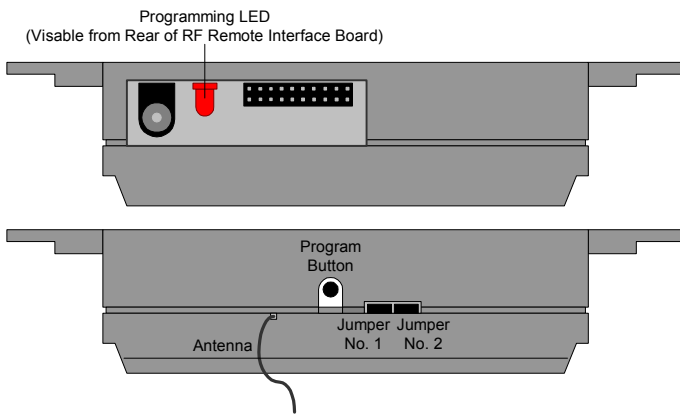

Figure 2
1. Remove both jumpers (see **Figure 2**).
6. Replace both jumpers (see **Figure 2**).